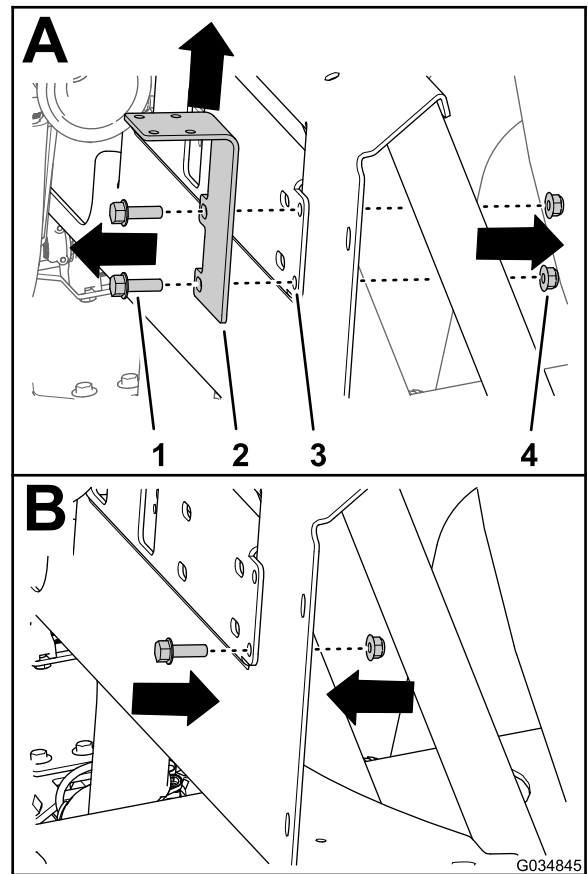

Figure 54
- Remove the 2 flange-head bolts (5/16 x 1 inch) and 2 flange locknuts (5/16 inch) that secure the support bracket for the bypass-shutoff valve to the manifold mount (A of Figure 54), and remove the shutoff-valve bracket.
- Assemble a flange-head bolt (5/16 x 1 inch) and flange locknut (5/16 inch) to the manifold mount (B of Figure 54) at the lower hole position for the shutoff-valve bracket that you removed in step 5.